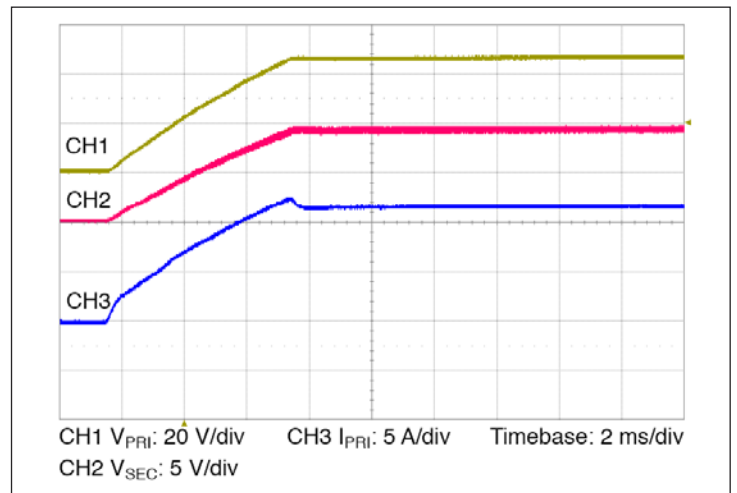

Figure 10 — Start up from application of  $V_{PRI}$ ; VC pre-applied  $C_{SEC} = 1000 \mu F$
- Normal operation (VC applied prior to the source voltage): In this case, the controller is active prior to the source ramping. When the source voltage is applied, the VTM module load voltage will track the source (See Figure 10). The inrush current is determined by the source voltage rate of rise and load capacitance. If the VC voltage is removed prior to the primary voltage reaching 26 V, the VTM may shut down.